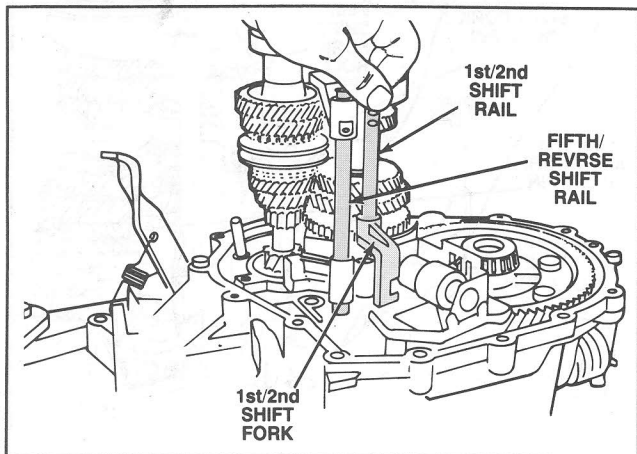

Figure 47 1st/2nd Shift Rail Removal
17. Remove the first/second shift rail. (Figure 47).